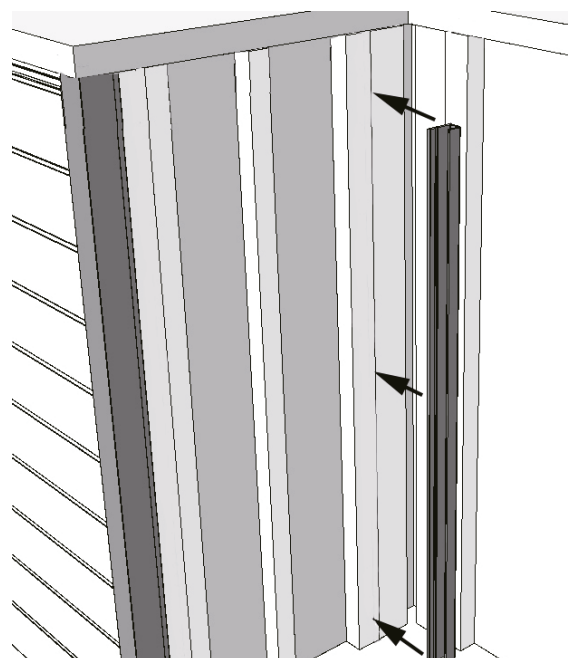

Fig8-1
1. Install the HLYC-016F to position e. As shown in Figures 8-1 and 8-2: